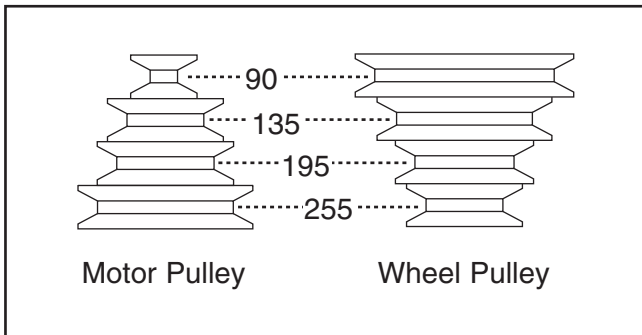

Figure 51. Illustration of V-belt placement for FPM selection.
- Position V-belt on pulleys for desired FPM (see **Figure 51**).